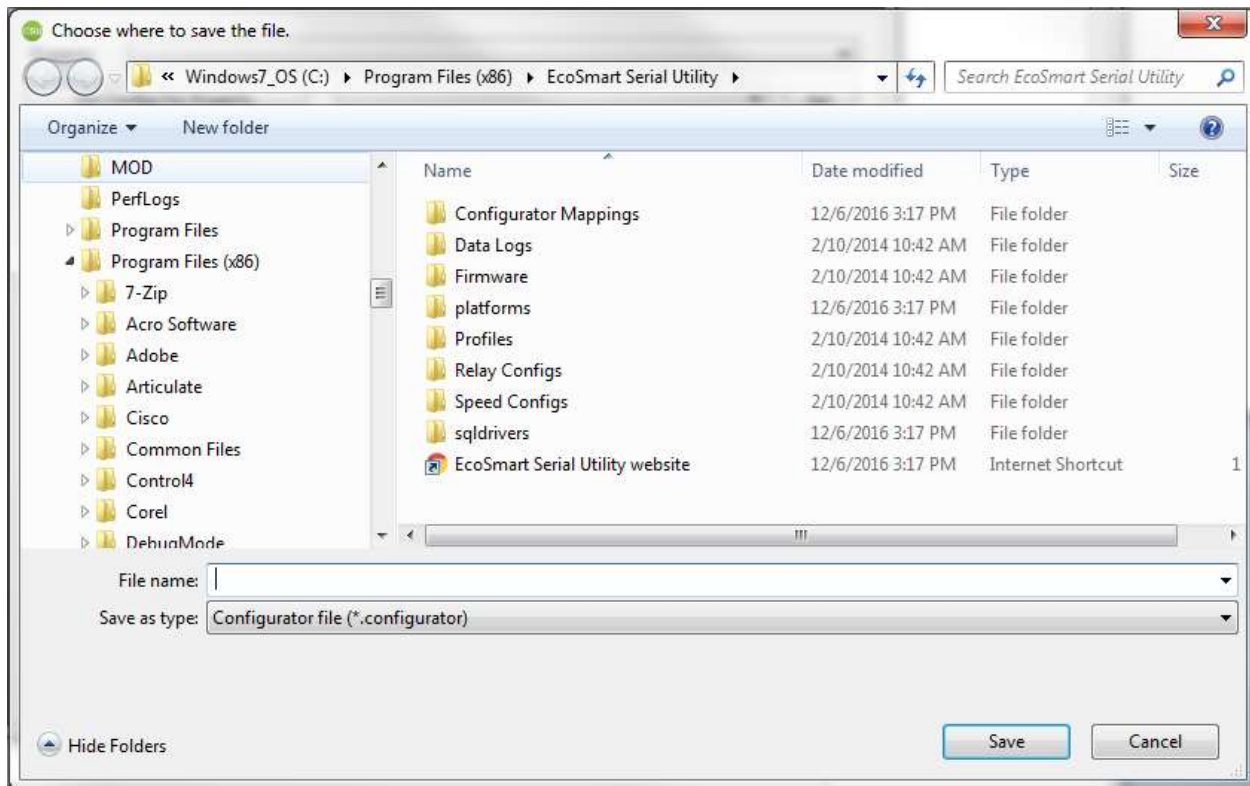

Figure 23
28. Save the file to the drive of your preference (Figure 23).